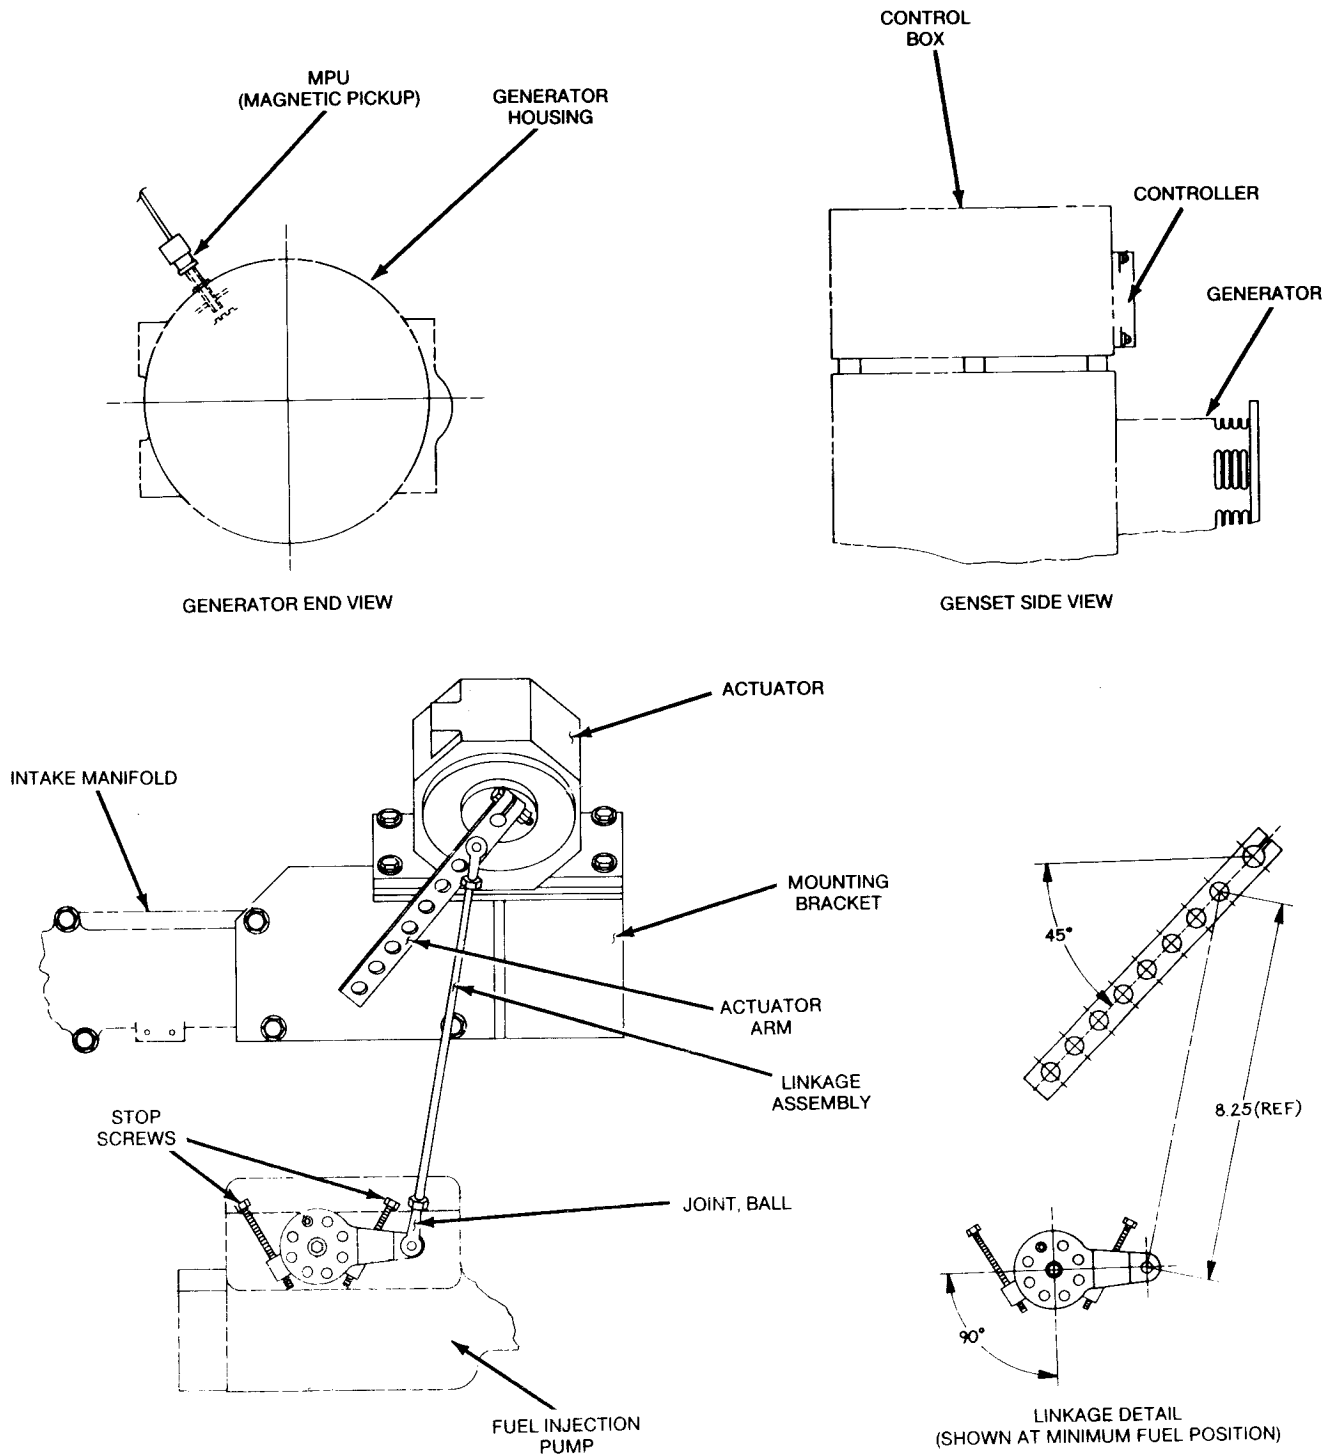

FIGURE 9-14. ELECTRONIC GOVERNOR COMPONENT LOCATION
If the genset has the optional electronic governor shown in Figure 9-14, refer to the following sections for troubleshooting and adjustment/calibration procedures.
This section contains information on adjusting the optional electronic governor. The adjustments covered are to the stop screws on the injection pump mechanical governor (Figure 9-14), and to the GAIN and SPEED screws on the Controller (Figure 9-18).
1. Check the governor Actuator linkage to see that it does not bind through its full travel. The linkage should be as shown in Figure 9-14.